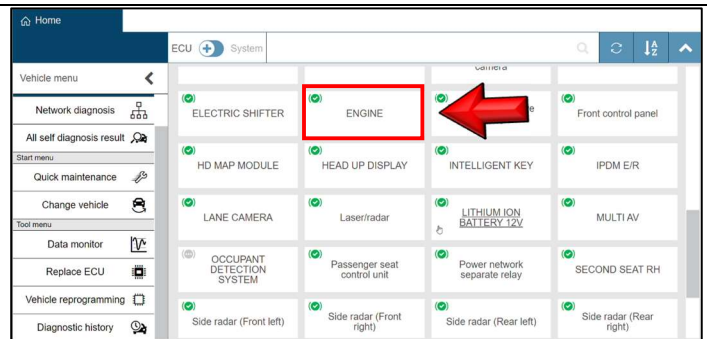

Figure 9
10. Locate and select **ENGINE**. (Figure 9)